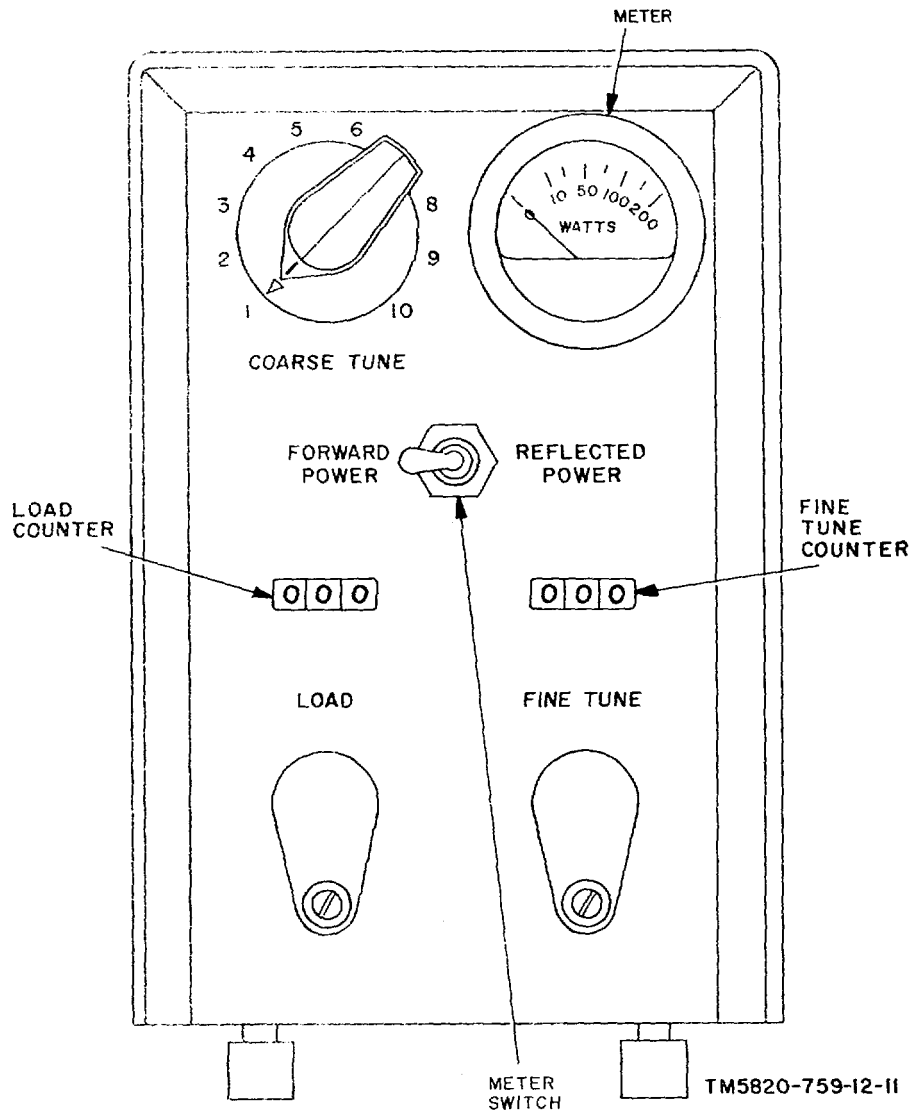

Figure 3-3. Coupler, Antenna CU-1782/GRC-165, front panel
a. Antenna , Coupler Front Panel Switches, Controls, and indicators (fig. 3-3).
(1) Turn the TRANSMIT AUDIO control fully clockwise to TUNE; this action limits the transmitter power output to 25 watts.
(2) Preset the PA TUNE control to the operating frequency.
(3) Set the FUNCTION switch to CW.
(4) Plug the microphone or the handset into the HANDSET connector.
(5) Key the transmitter by pressing the microphone or handset push-to-talk switch.
(6) Adjust the PA TUNE control for a maximum indicated power output.
(7) If connected, set the antenna coupler tuning controls to typical settings (Table 3-1 or (a) below) and tune controls (fig. 3-3) as described in (b) through (e) below. Reflected power should be less than 5 percent of the forward power. Retune whenever antenna or operating frequency is changed. Record final settings for future use.